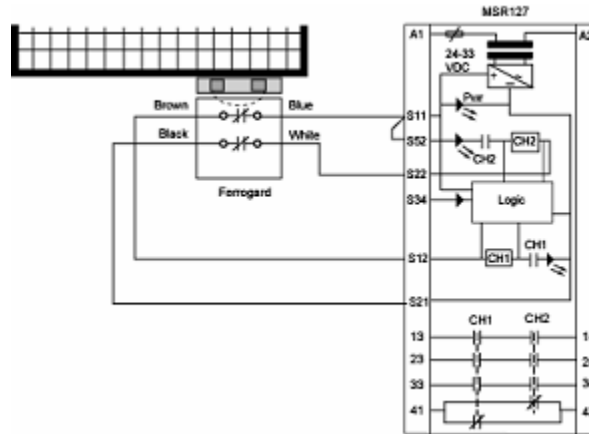

Figure 8. Dual Channel with One Ferrogard
- The input circuit arrangement shown in Figures 8 meets the requirements of EN954-1 Category 4.